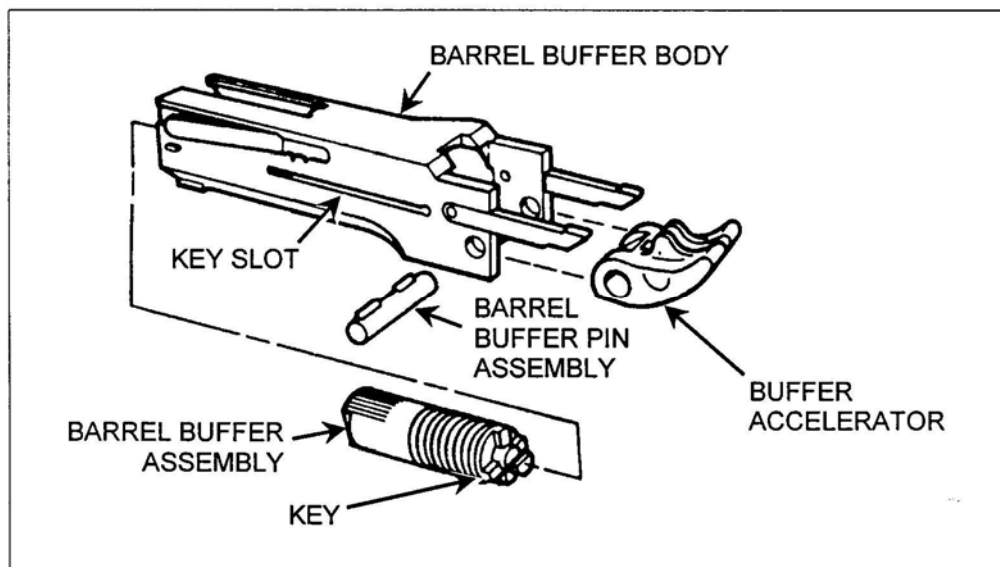

Figure 27. Assembly of the barrel buffer assembly.
- (1) Place buffer accelerator (tips up) into barrel buffer body, align mounting holes, and install buffer pin assembly. Ensure both ends of barrel buffer pin assembly are flush with sides of barrel buffer body (Figure 27).